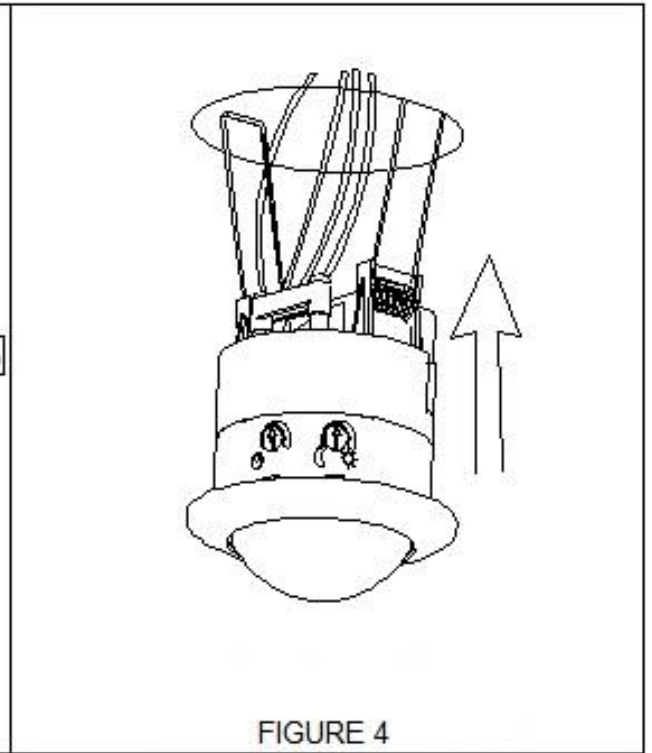

FIGURE 4
5. Push the springs up and push the sensor up through the cut-out hole and into the ceiling (figure 4).